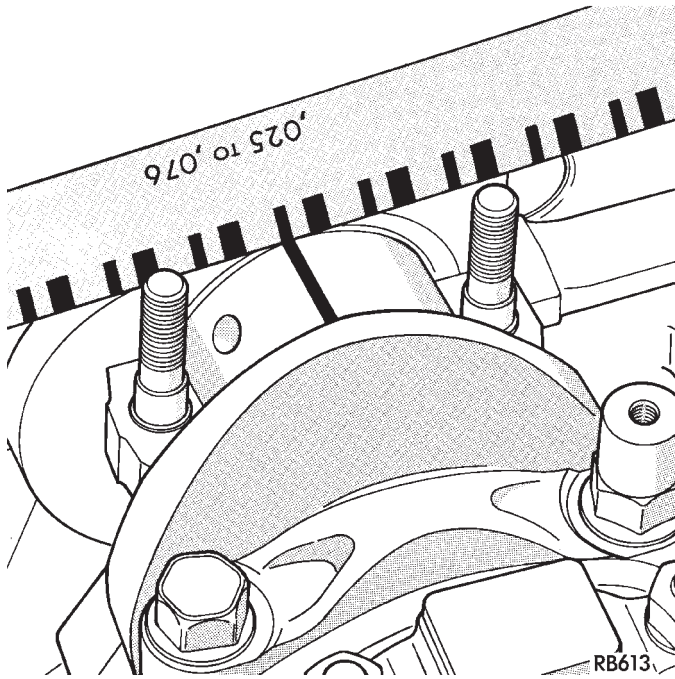

Fig. 17 Checking Connecting Rod Bearing Clearance
(1) Follow procedure specified in the Standard Service Procedures Section for Measuring Main Bearing Clearance and Connecting Rod Bearing Clearance (Fig. 17). Refer to specifications (Fig. 20).